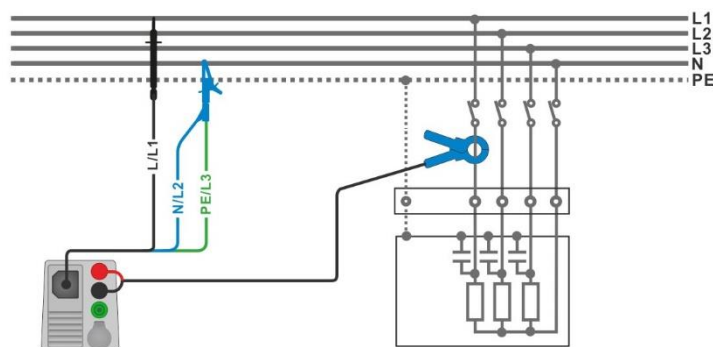

Figure 7.81: Power measurement
- › Connect the 3-wire test lead and current clamp to the item to be tested (see **Figure 7.81**).